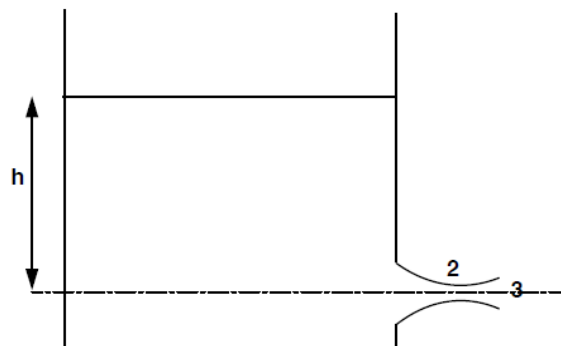

Figure 4: Water is discharging from a tank through a convergent-divergent mouthpiece
2. [a] Water is discharging from a tank through a convergent-divergent mouthpiece (Figure 4). The exit from the tank is rounded so that losses there may be neglected and the minimum diameter is 0.05 m. If the head in the tank above the centre-line of the mouthpiece is 1.83 m.